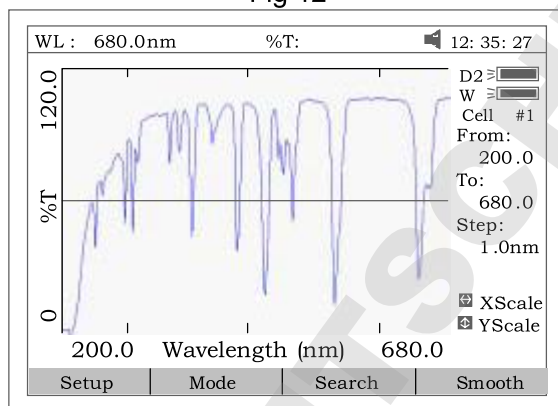

Fig 13
- The key **【ENTER】** be pressed, the file selected will be opened and displays on the screen. Fig 13.
- ✧ Press the key **【SAVE】** in Fig13 to save curve.